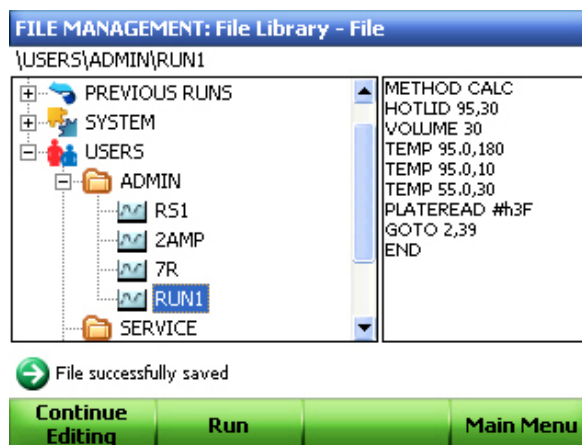

Figure 37. Protocol successfully saved.
4. Click **Run** (F2) to continue and run the protocol (Figure 37).